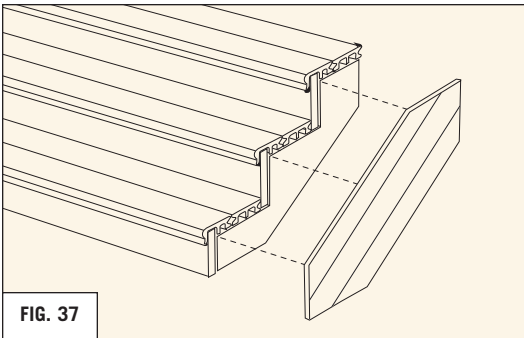

FIG. 37
- A full width of Eon fascia cladding can be attached to the stair stringers to cover the open triangular space created by the step width and height. To achieve the same appearance on both sides of the stringer cladding, two pieces of cladding, placed back-to-back, can be attached to the stringer. Alternatively, a solid lumber stringer can be attached to the stringer, and be covered with the fascia cladding. Trimming an extra width of cladding may be required to achieve full coverage of the stringer width. Slot all holes 3/8" before attaching with #8 deck screws. (REFER TO FIG. 37)